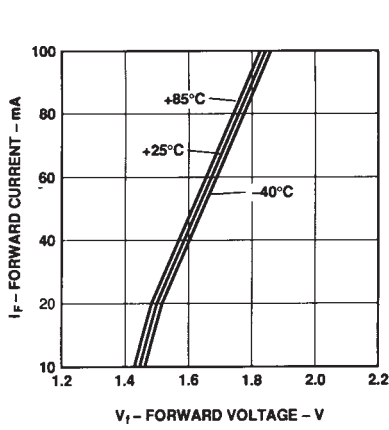

Figure 9. Forward voltage and current characteristics.
*Example for  $I_{F ON} = 100 \text{ mA}$ :  $V_F$  can be obtained from Figure 9 (= 1.84 V).*